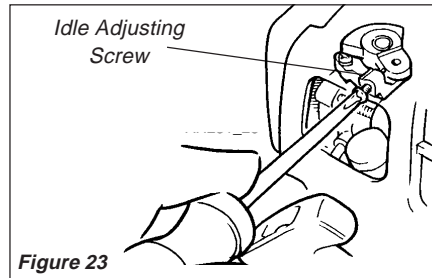

Figure 23
2. If the cutter attachment rotates at engine idle, reduce idle speed by turning the idle adjusting screw counter-clockwise as necessary. See Figure 23.